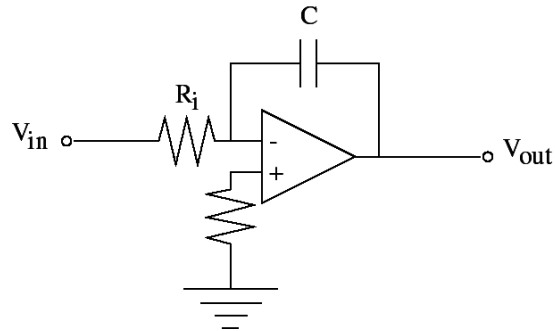

Figure 9: Integrator
- Analyze the integrator circuit shown in Figure 9 by relating V_{out} to V_{in} assuming an ideal op-amp. Express A in Equation 2 in terms of C and R_1 .